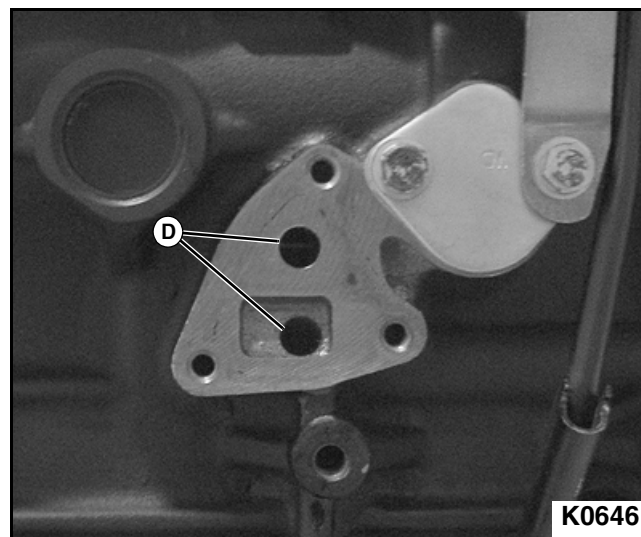

Figure 3-114
5. Ensure oil passages (D) of cylinder block are clean. **See Figure 3-114.**